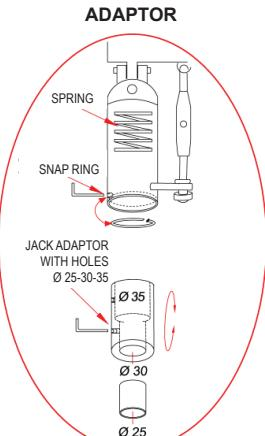

fig1
- Fit the jack adaptor onto its stand with Ø 30 mm and lock it by screwing the built-in hexagonal head screw (fig. 1).